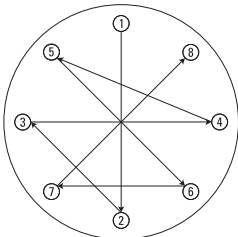

Figure 11. Mounting Bolt Torque Sequence, 8 Holes
5. First, tighten the bolts to 60% of the specified torque; next, torque to 90%; finally, finish at 100%. The mounting bolts should be torqued in sequence, as shown in Figures 11, 12, and 13. For cells having 4 mounting holes, use the pattern for the first 4 holes in the 8-hole pattern.